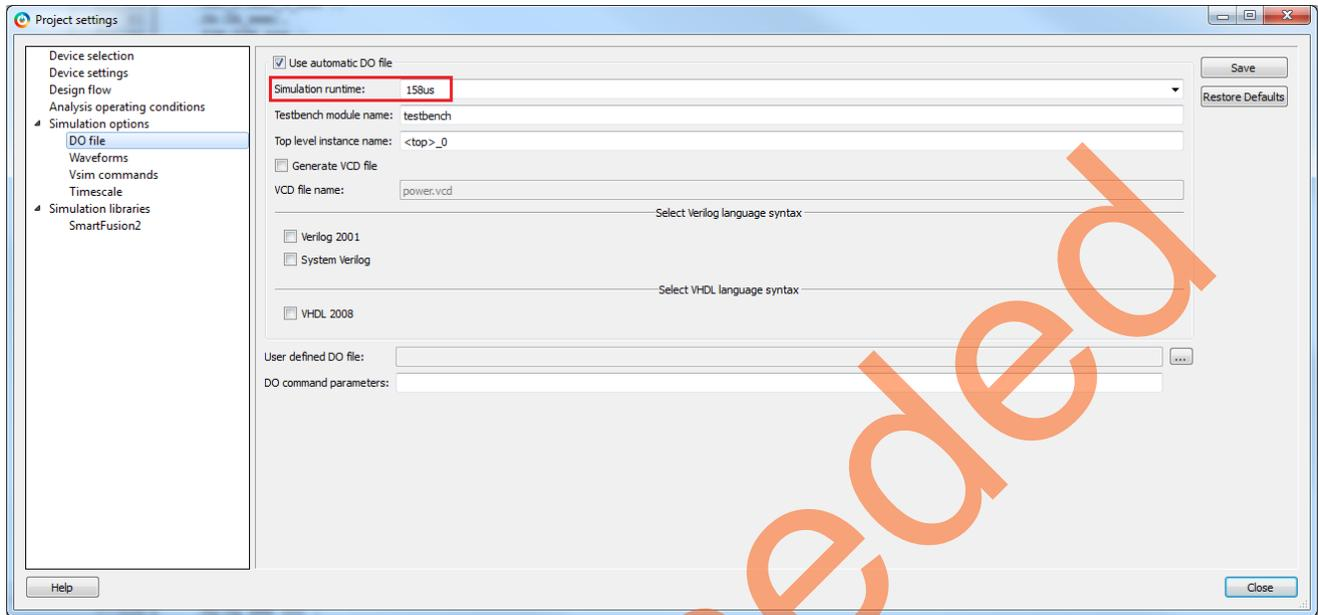

Figure 32. Simulation Runtime
2. Set **Simulation Runtime** to **158 us**, as shown in Figure 32.